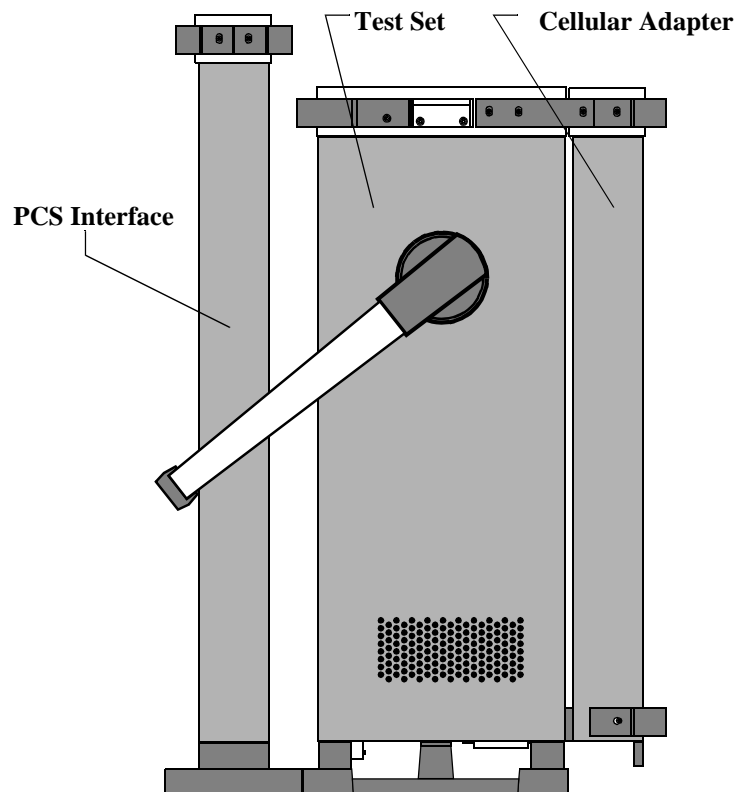

Figure 8
- b If you are placing the Test System vertically (as is often done when putting the equipment on the floor), the PCS Interface's rear feet must be placed on the same surface as those of the Test Set. After placement, rotate the handle of the Test Set downwards to provide support for the PCS Interface. Refer to figure 8.